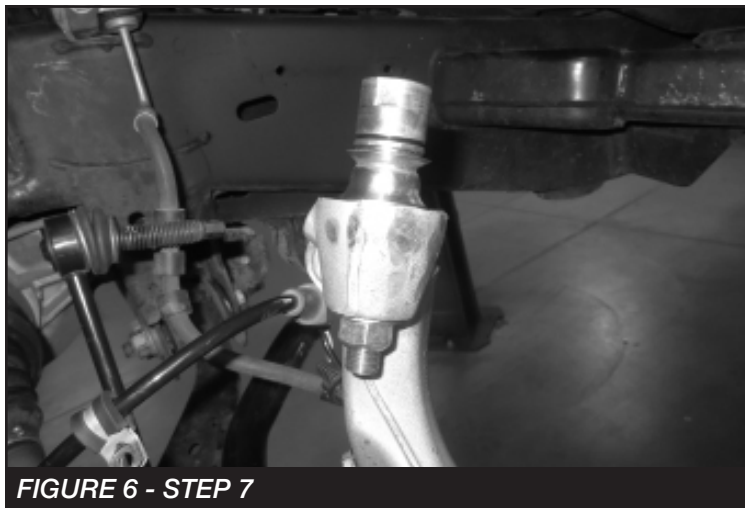

FIGURE 6 - STEP 7
7. Install FT90153 (Lower misalignment) onto FT94538 (Uniball Pin). Then, install into the factory control arm using the supplied 1/2" nut, washer. Torque the nut to 105 ft-lbs. **SEE FIGURE 6**